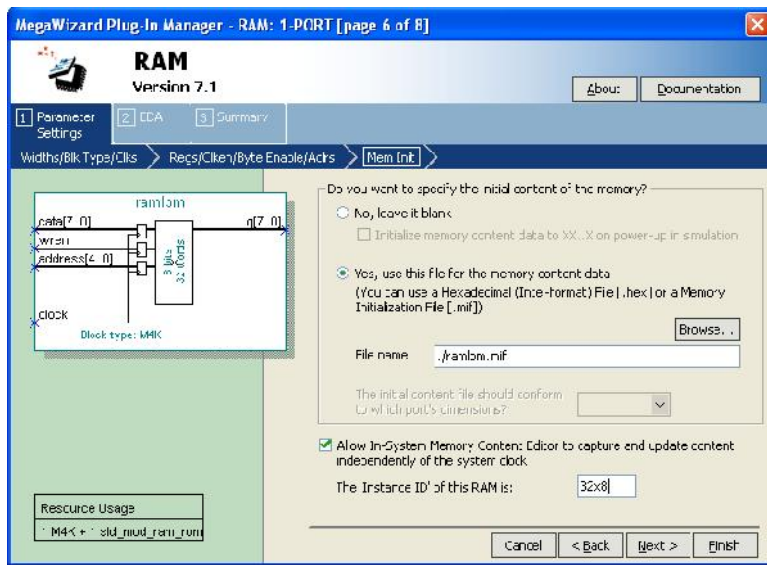
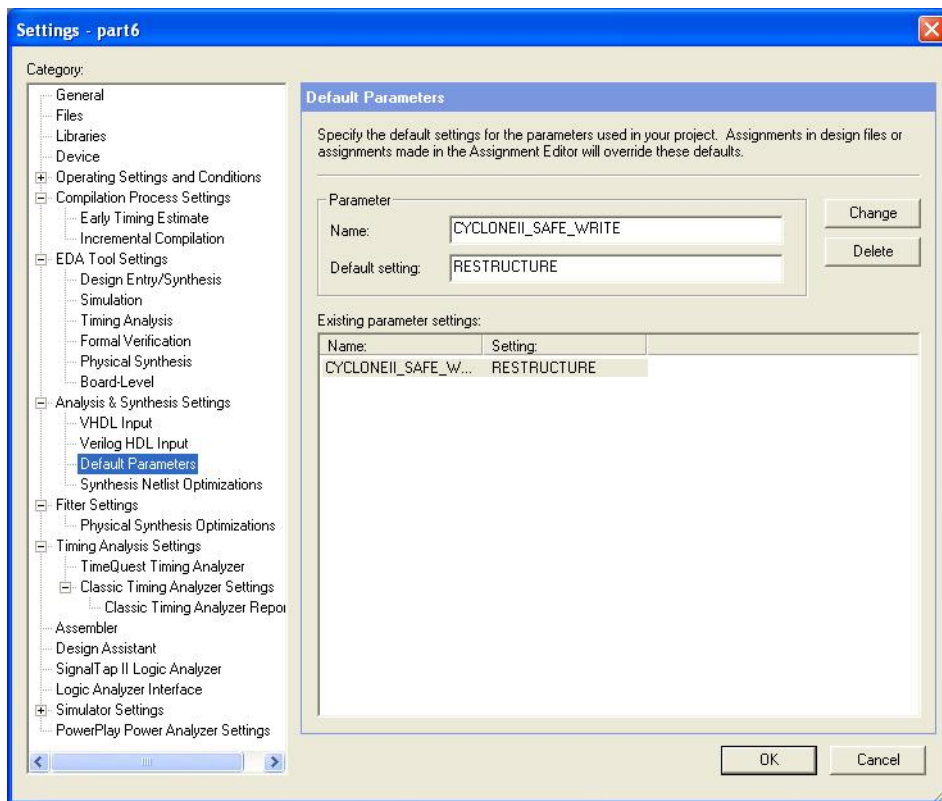

Figure 6. Configuring *RAM: 1-PORT* for use with the In-System Memory Content Editor.
Figure 7. Setting the *CYCLONEII SAFE WRITE* parameter.
1. Create a new Quartus II project for your circuit, and use the MegaWizard Plug-in Manager to again create a *RAM: 1-PORT* LPM. For Pages 3 to 5 of the Wizard use the same settings as in Part I. On Page 6, shown in Figure 6, specify the *ramlpm.mif* file as you did in Part II, but also make the setting **Allow In-System Memory Content Editor to capture and update content independently of the system clock**. This option allows you to use a feature of the Quartus II CAD system called the In-System Memory Content Editor to view and manipulate the contents of the created RAM module. When using this tool you can optionally specify a four-character 'Instance ID' that serves as a name for the memory; in Figure 7 we gave the RAM module the name 32x8. Complete the final steps in the Wizard.
- Before you can use the In-System Memory Content Editor tool, one additional setting has to be made. In the Quartus II software select **Assignments > Settings** to open the window in Figure 7, and then open the item called **Default Parameters** under **Analysis and Synthesis Settings**. As shown in the figure, type the parameter name **CYCLONEII SAFE WRITE** and assign the value **RESTRICTURE**. This parameter allows the Quartus II synthesis tools to modify the single-port RAM as needed to allow reading and writing of the memory by the In-System Memory Content Editor tool. Click **OK** to exit from the Settings window.